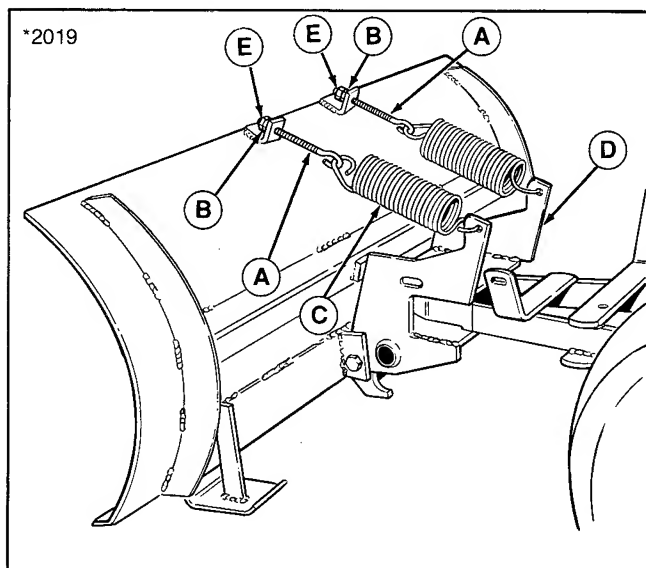

Figure 2. Tension Springs
2. Insert eyebolt (A, figure 2) thru lug on blade and screw on 5/16 nut (B) only far enough so that it is flush with the end of the eyebolt.
3. Hook the spring (C) into the pivot frame (D). Stretch the spring with a pliers to hook springs on eyebolt (A).
To adjust spring tension, hold rear nut (B, figure 2) and loosen front nut (E). Tighten rear nut (B) to increase spring tension or loosen to decrease. Tighten front nut (E) so the two nuts are drawn firmly together.